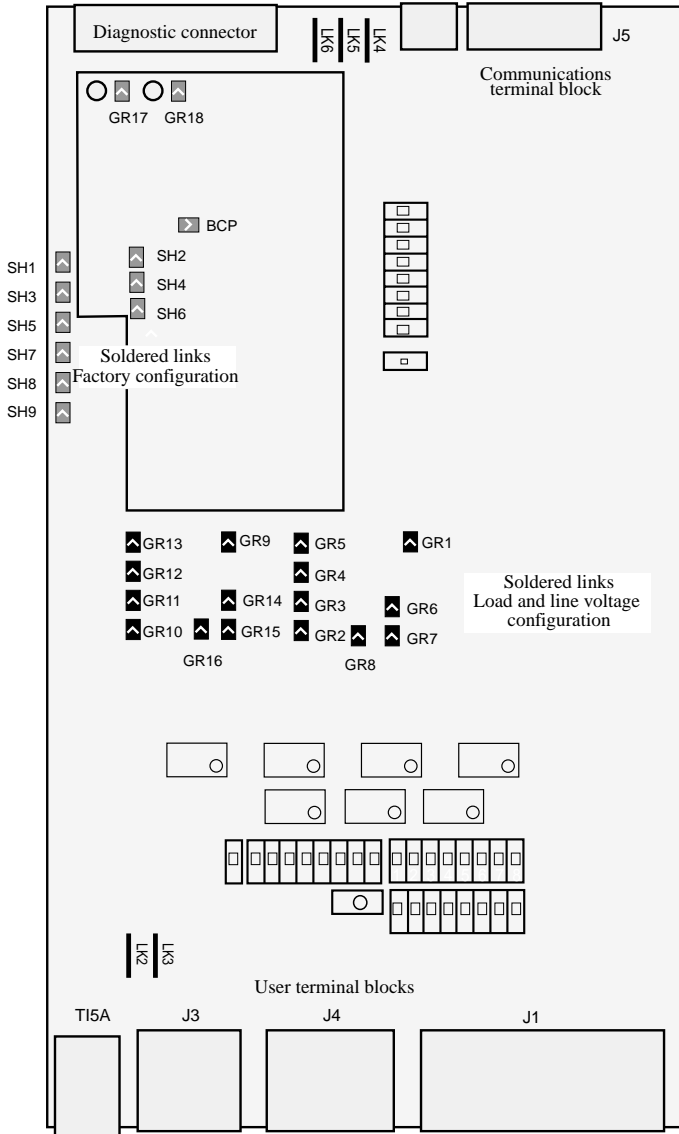

Figure 6-3 Location of soldered configuration links on driver board
The layout for links LK2 and LK3 is shown in Figure 6-3.
In this case the voltage measurement must be recalibrated and the links (also known as ‘coffee beans’: GR) must be soldered or unsoldered on the driver board (for layout see Figure 6-3):
**Note:** The BCP soldered link (Figure 6-3) must never be soldered; it is reserved for future applications.
The type of communications protocol programmed into the unit microprocessor is determined when ordering. It is configured by the position of the SW3.7 mini-switch and by the presence of links LK4 to LK6 on the driver board (for layout see Figure 6-3).